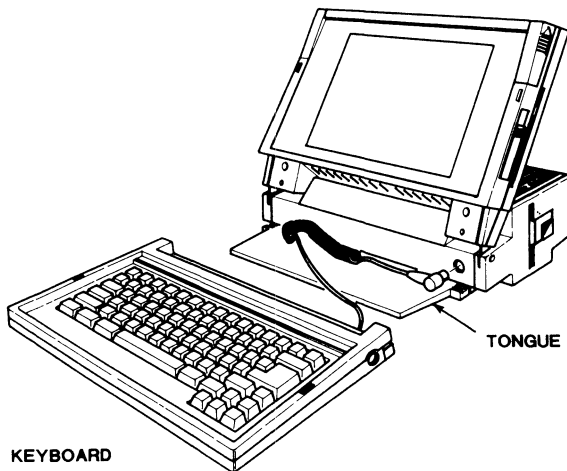

Figure 2-4. Attaching the Keyboard
1. Connect the keyboard cable to the keyboard connector, as shown in Figure 2-4.